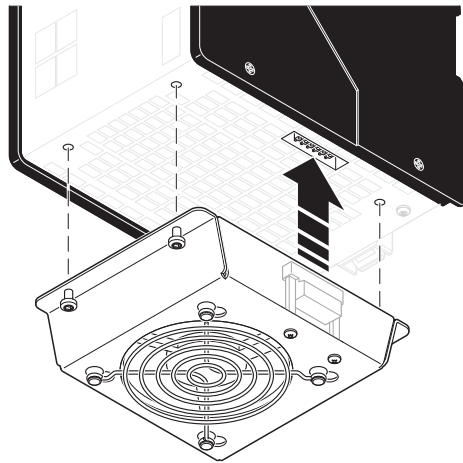

Figure 3-11 Mounting the RFC FAN MODULE fan module
7. Mount the fan module to the bottom of the RFC using the four screws, as shown in Figure 3-11.
- a) Position the fan module on the bottom of the RFC according to Figure 3-11. Make sure that the COMBICON connector is fitted properly.